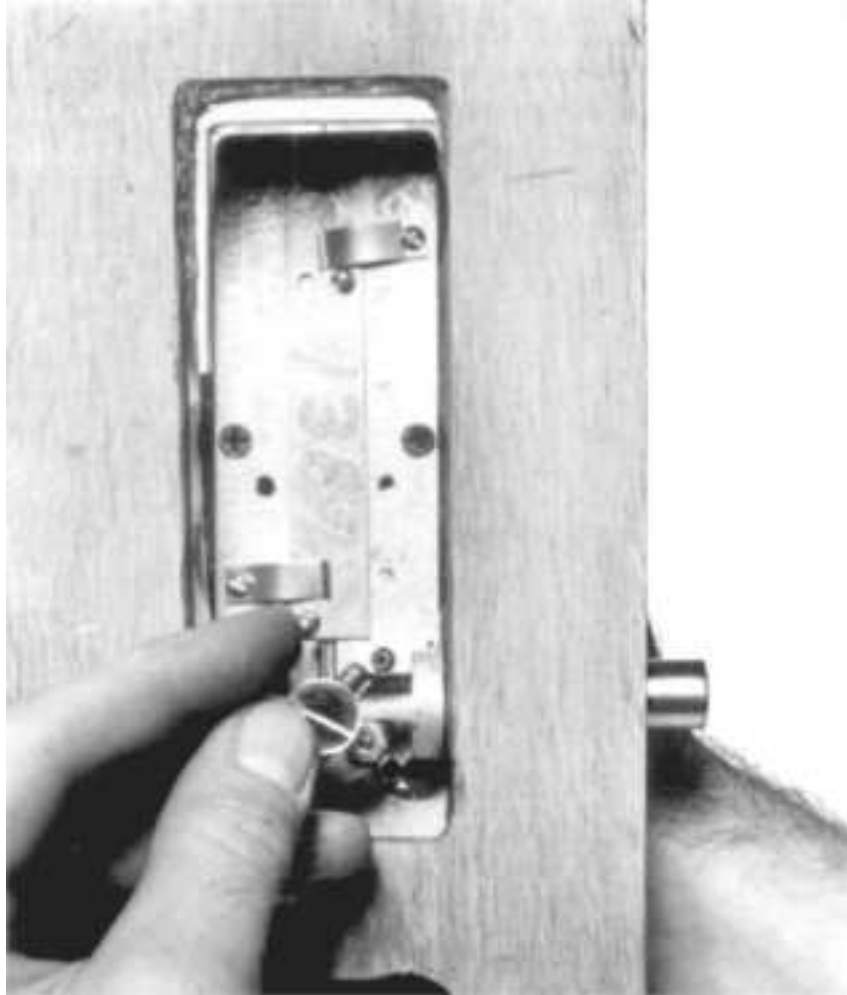

**Figure 18.48** Preso-Matic installation, Step 2.
2. Mortise the door edge for the bolt face and insert the bolt housing and tighten the screws (Fig. 18.48 ).